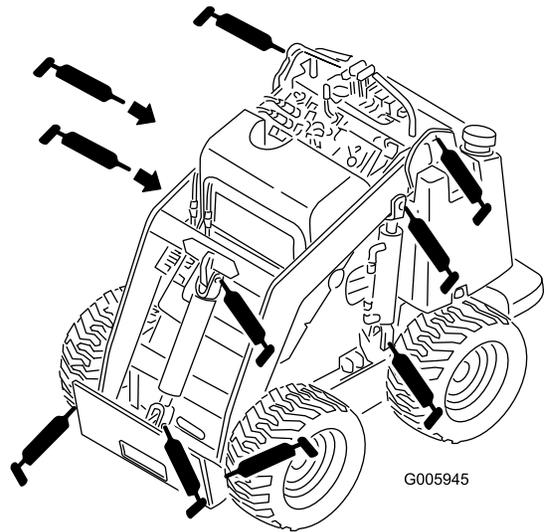
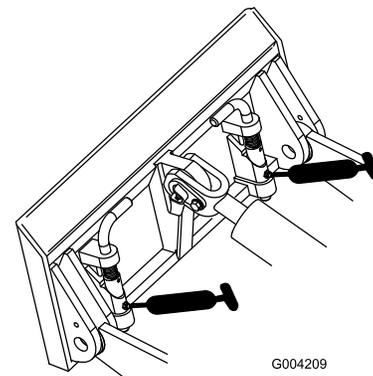

Figure 27
Figure 28
3. Connect a grease gun to each fitting (Figure 27 and Figure 28).